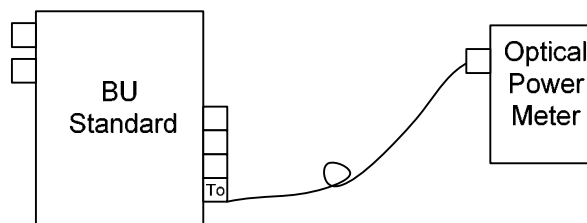

Figure 3.2 PDI Setup 1
- 3.7. Connect PDI testing setup 1 according to Figure 3.2.